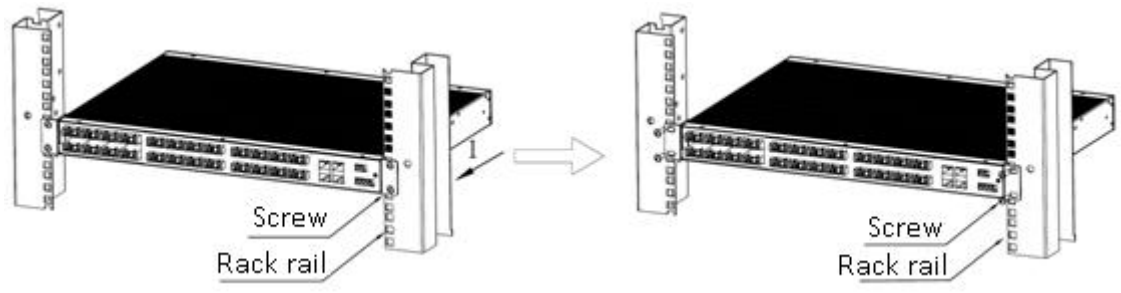

Figure 7: Dismounting
Step 1: Unscrew 4 screws fastening the device and the rack as shown in Figure 7.